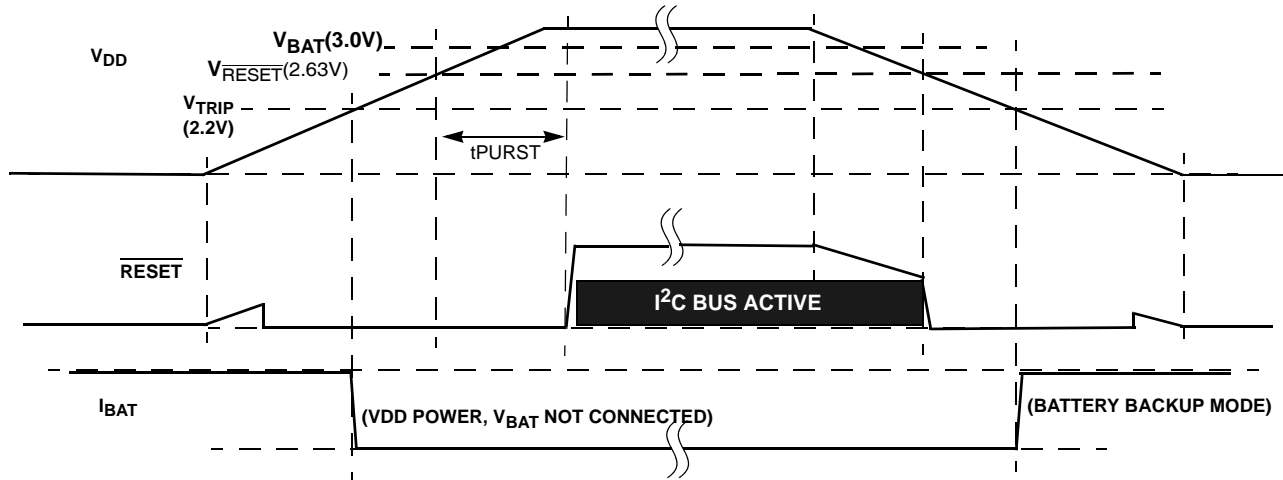

FIGURE 29. EXAMPLE RESET OPERATION IN MODE A OR C
Mode. In actuality the V_{DD} will go below V_{RESET} before switching to battery backup, which will disable I²C ANYTIME the device goes into Battery Backup Mode. Regardless of the battery voltage, the I²C will work down to the V_{RESET} voltage (see Figure 29).
- Mode D - In this mode the selection bits indicate switchover to battery backup at $V_{DD} < V_{BAT}$, and no I²C communications in battery backup. This mode is unique in that there is I²C communication as long as V_{DD} is higher than V_{RESET} or V_{BAT} , whichever is greater. This mode is the safest for guaranteeing I²C communications only when there is a Valid V_{DD} (see Figure 29).